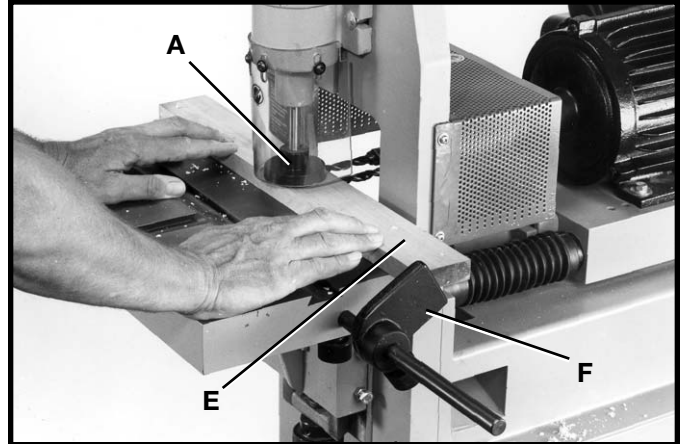

Fig. 35
Figs. 35 and 36, illustrate a typical two hole side boring operation. Note that work holddown (A) Fig. 35, has been adjusted to hold workpiece (E) down on the table and that workpiece (E) is firmly held against the table fence and stock stop (F).